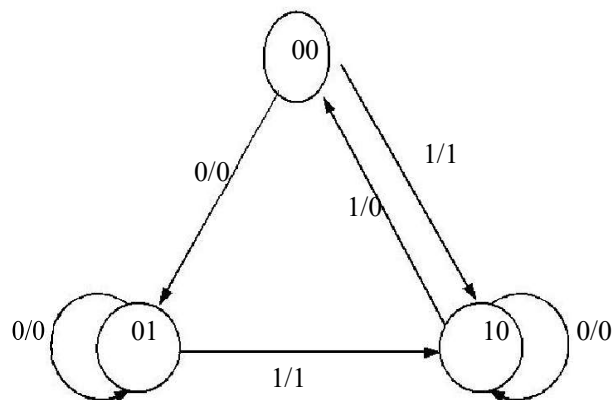

Figure: 1
- a) Design, construct and test a sequential circuit whose state is shown in Figure.1. Use JK, T and D flip-flops in the design.